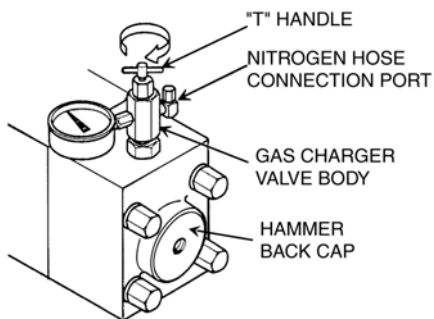

Figure 7. Connecting Gas Charger to Hammer
- b. Remove the gas valve cap located on the hammer back cap and attach gas charger, see Figure 7.
- b. **For disassembly** loosen the bleeder screw on the gas charger very slowly and release the N₂ gas. Watch the pressure gauge until the nitrogen pressure is fully released; (see Figure 7 and 8.)